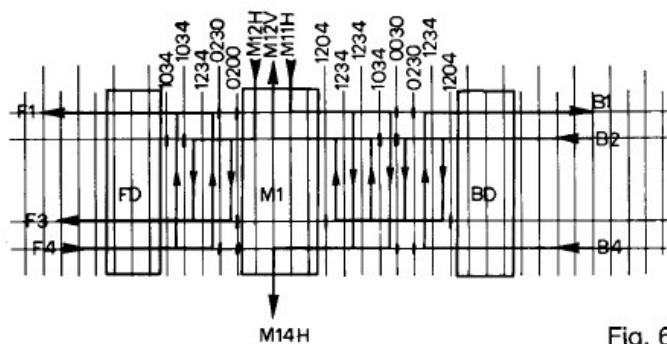

Fig. 6
- gasket specification (Fig. 6)
The diagram shows the plate heat exchanger from the side, fig. 6. It shows the plate composition and the liquid flow in the plate stack. There are 4 lines going horizontal, showing the 4 corner holes. The long vertical lines show left plates. The short vertical lines show right plates.